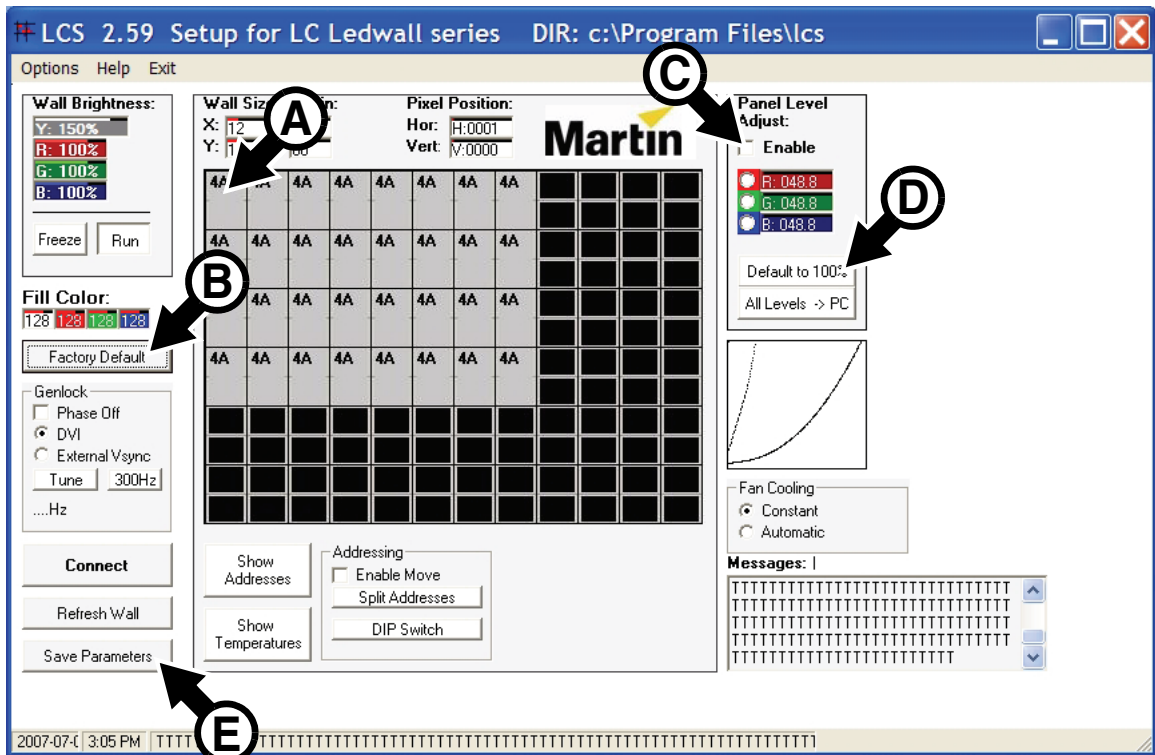

Figure 1
2. See Figure 1. Select one panel by clicking on its icon (A). Panel icons turn green when selected.